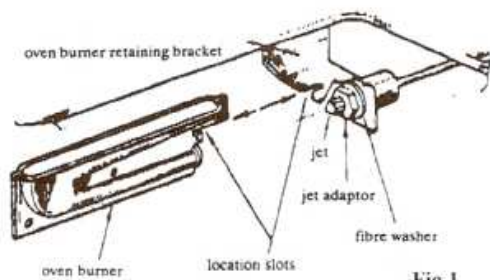

Fig 1
- 1) **REMOVING/REPLACING THE OVEN BURNER AND INJECTOR (SEE FIG.1)**